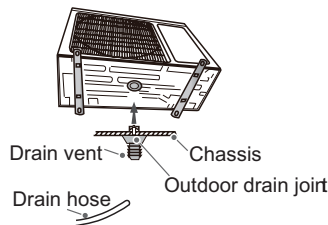

Fig.19
- (1) Connect the outdoor drain joint into the hole on the chasis.
- (2) Connect the drain hose into the drain vent.
- (As show in Fig.19)